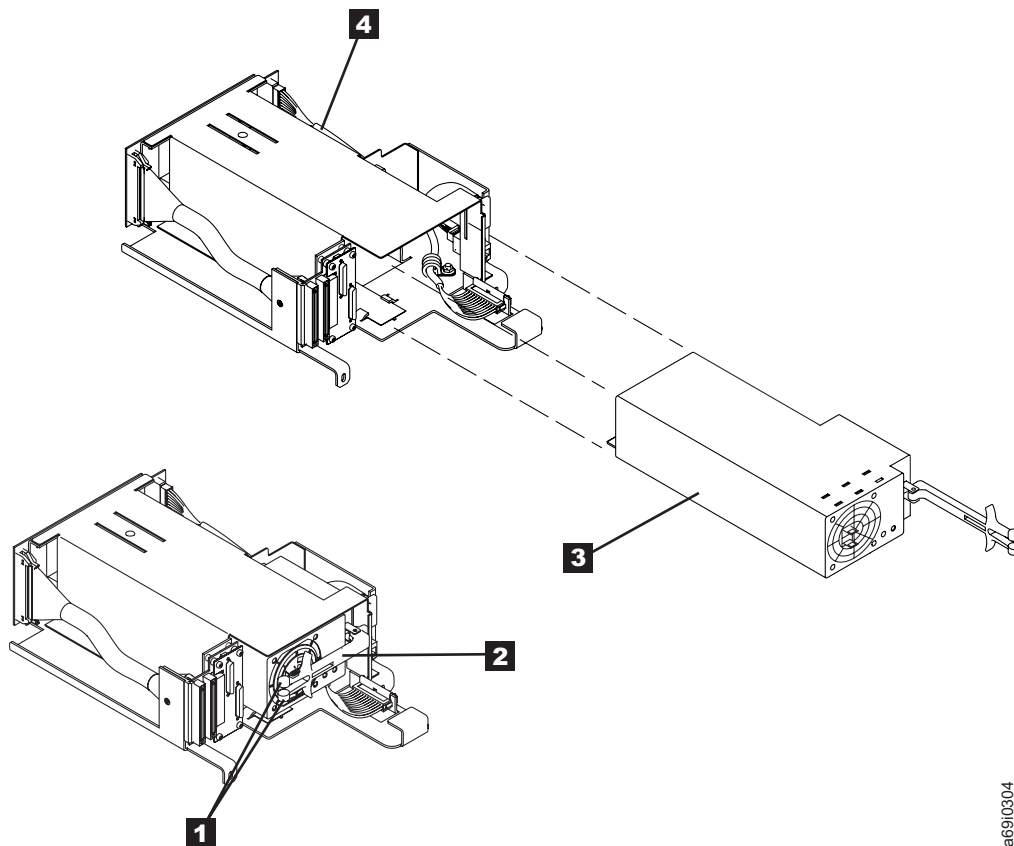

Figure 70. Removing or Replacing a Redundant Power Supply - Models L32 or D32 Hot Swap
2. Use your thumb and index finger to pinch together the locking arms (see **1** in Figure 70) of the power supply.
7. Carefully slide the power supply canister ( **3** in Figure 70) into the fixed tray assembly **4**.